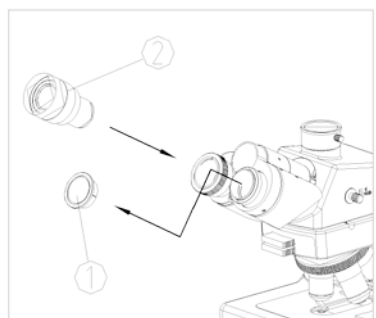

Fig.9
(1) Remove the eyetube cover①. (See Fig.9)
(2) Fully insert the eyepiece② into the eyetubetube.
- (2) Adjust the light adjustment knob ① to a desirable level (see Fig. 9). Rotate the light adjustment knob ① clockwise to raise the brightness. Rotate the light adjustment knob ① counterclockwise to lower the brightness.